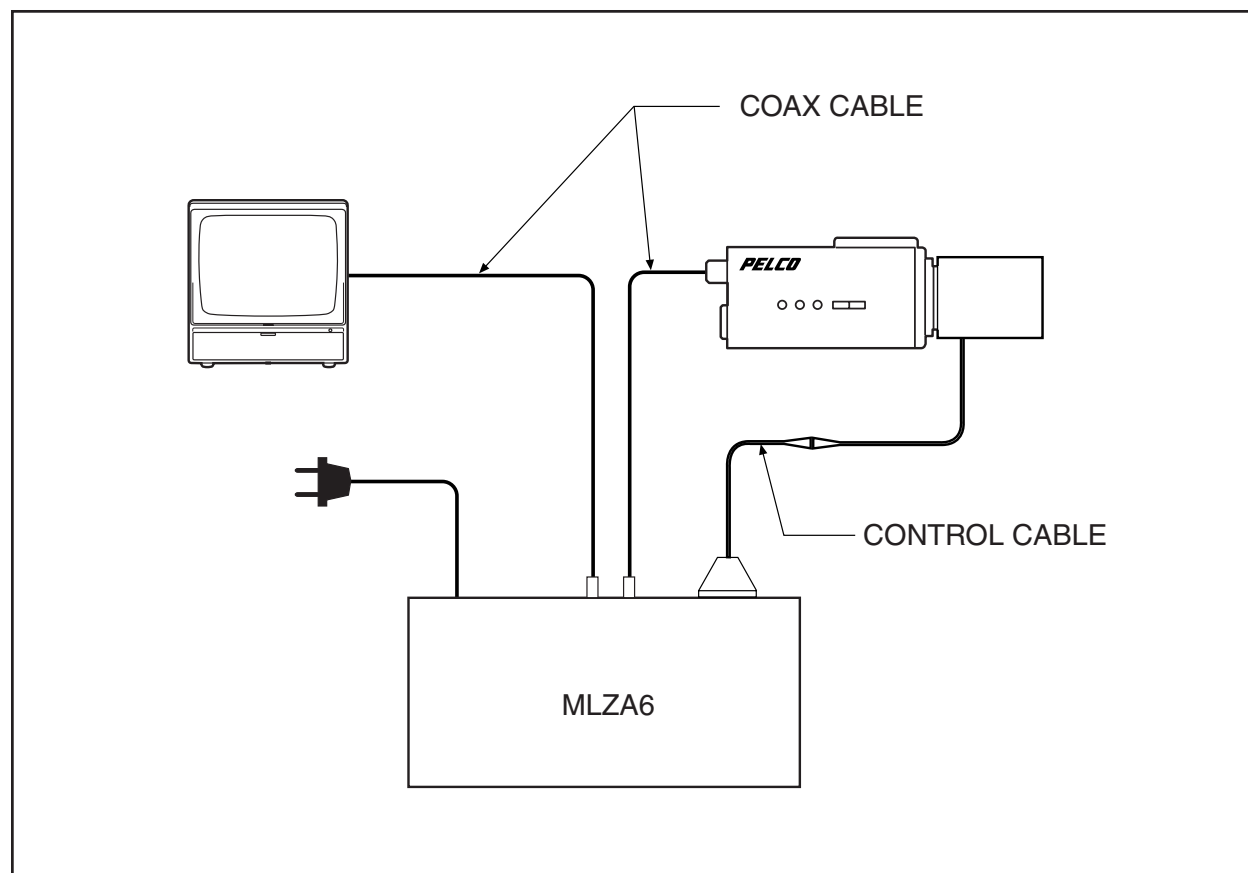

Figure 4. Basic System Configuration
1. Hook up the cable between the output connector on the MLZA6DT and the input connector on the lens (see Figure 4).
2. Connect the video cable from the camera to the VIDEO LOOP-THRU on the rear panel and to the monitor (see Figure 4).